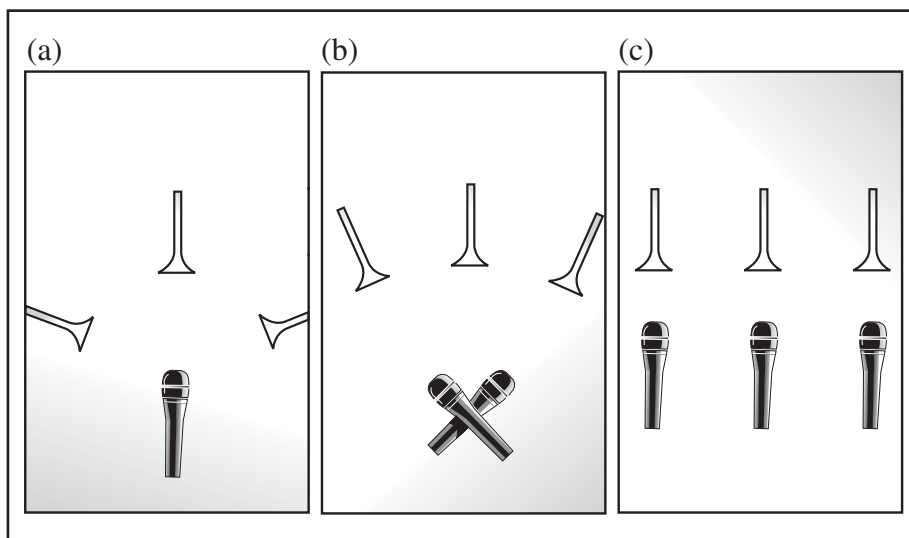

FIGURE 6.7
- **How many microphones are needed for recording horns?** Different setups for a horn section may depend on the number of microphones you choose to use, as shown in Figure 6.7: